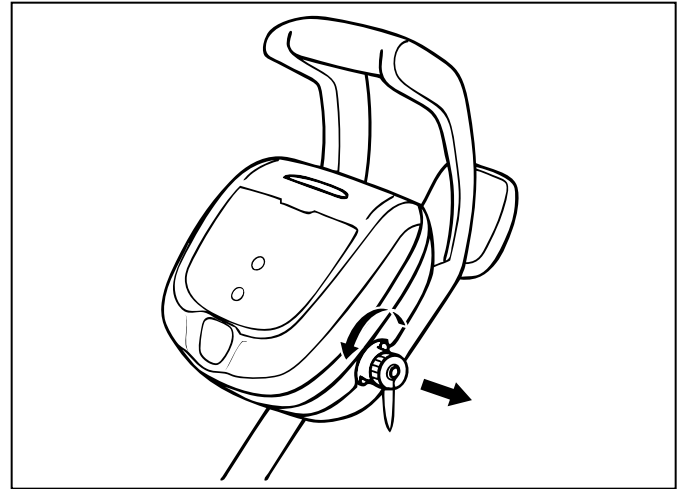

Figure 12. Remove Protective Cap
- **U.S.:** Per NEC® requirements, keep the control unit at least five (5) ft. (1.5 m) from the edge of the pool.
- **CANADA:** Per CEC requirements, keep the control unit at least three (3) m (10 ft.) from the edge of the pool.
1. Unscrew the protective cap for the power cable from the side of the control unit by turning counter-clockwise (Figure 12).